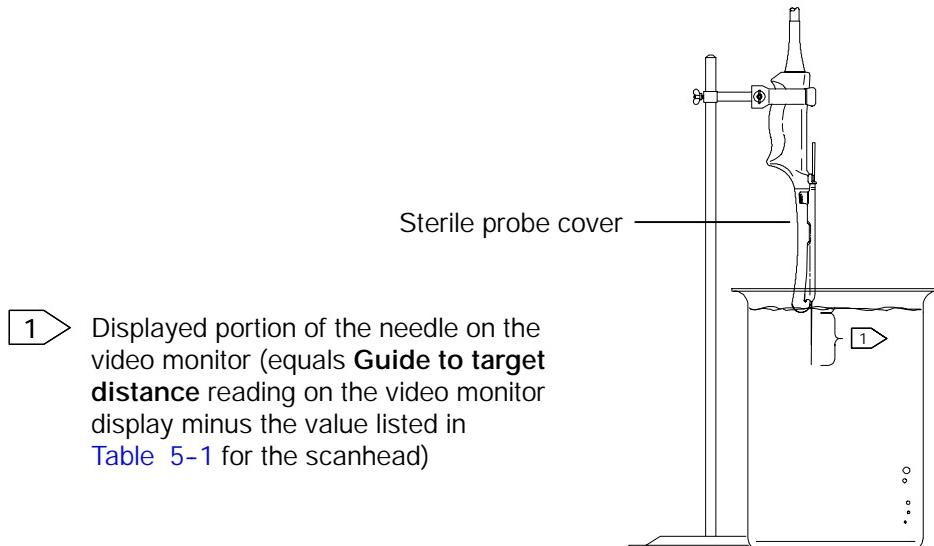

Figure 5-3. Guide to Target Distance
4. Immerse the scanhead no more than 0.64 cm (0.25 inch) into the water bath, and insert the needle into the biopsy guide (Figure 5-3).